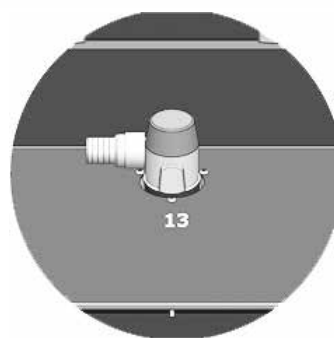

Fig. 8
Installation of the waste water pump for higher drains (13) Fig. 8